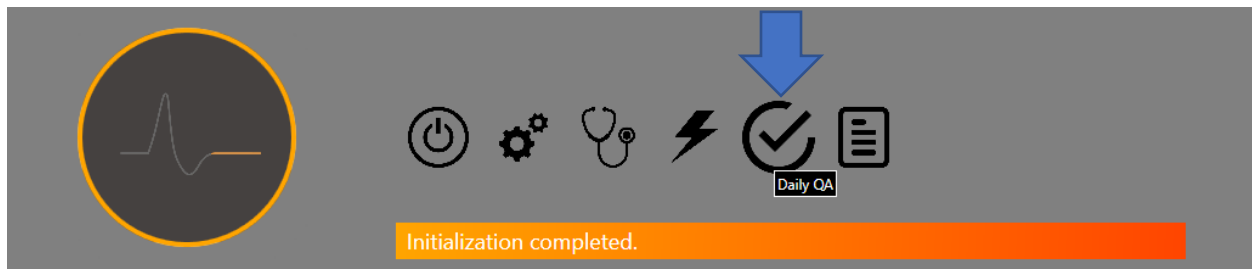
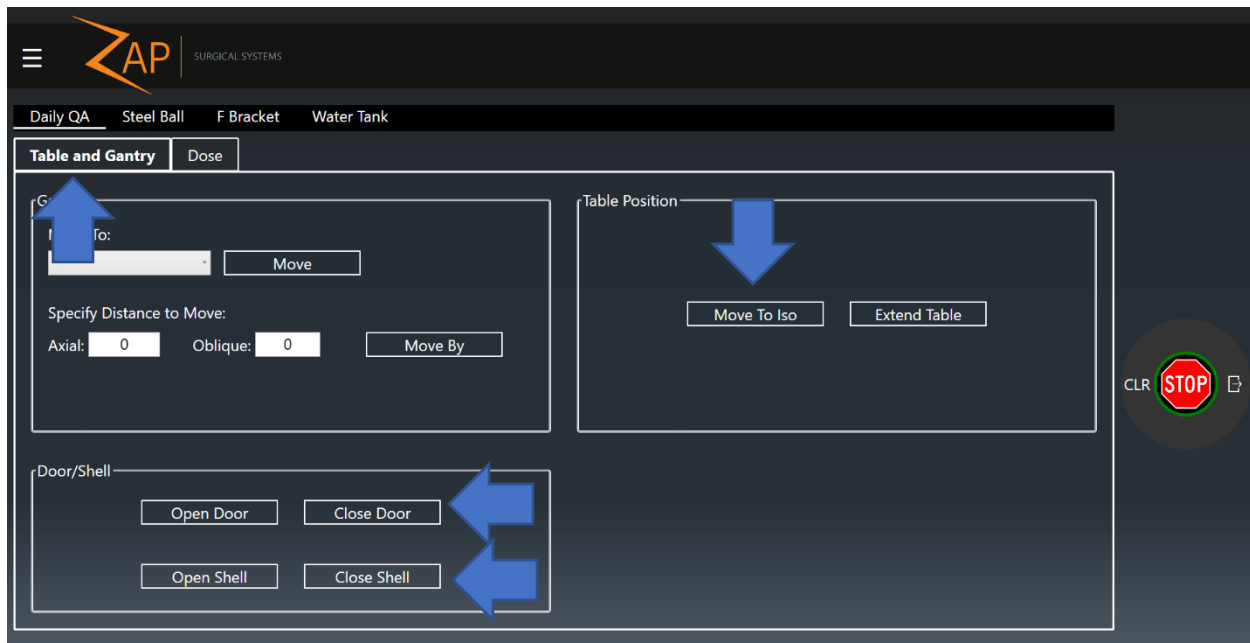

Figure 3-11 System dashboard showing the Daily QA icon.
Figure 3-12. Daily QA page, Table and Gantry tab. Arrows highlight buttons to move table into the machine and close the shell and door.
12. Click on the **Daily QA** icon on the dashboard (see Figure 3-11). Select the **F Bracket** page.
7. Use the Pendant to move the couch to the iso-center position and close the door and shell. Alternatively, click on the **Daily QA** icon on the Dashboard (see Figure 3-11), then click on the **Daily QA** page and the **Table and Gantry** tab (see Figure 3-12). Click on the **Move to Iso**, **Close Door** and **Close Shell** buttons.